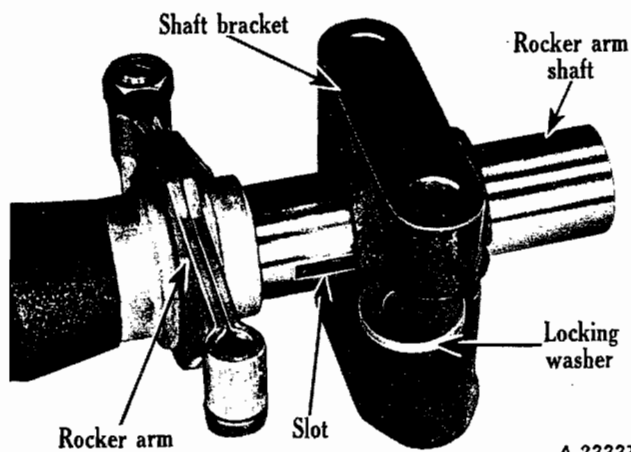

Fig. 4
- The rocker-arm assembly is composed of front and rear shafts joined at the center, on which are mounted twelve rocker arms and four tension springs. The shafts are mounted in seven brackets, and are prevented from turning at the two center brackets which contain locking washers fitting into slots in the shaft. Remove locking washers from two center brackets (Fig. 4).